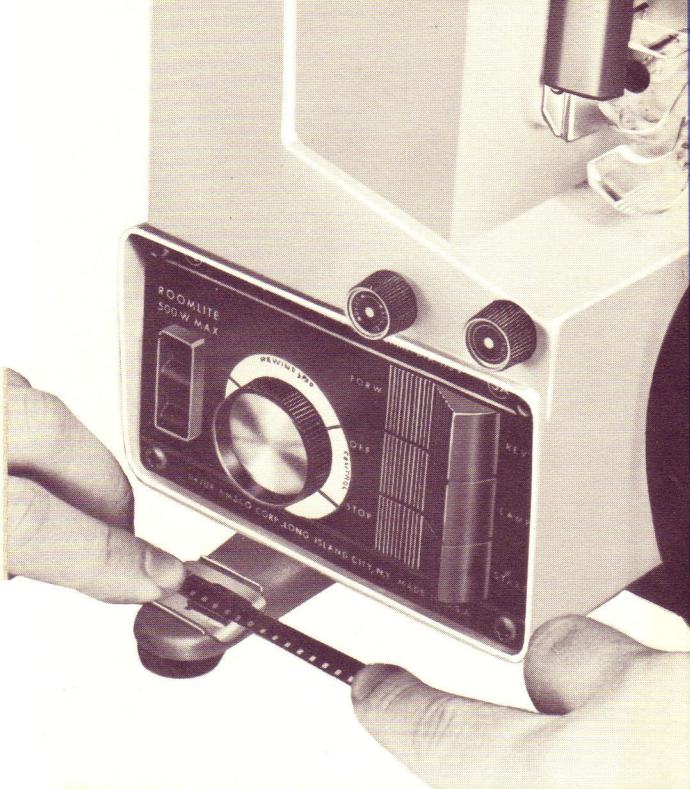

FIG. 5
4. If film is being run for the first time on your automatic loading projector or if the leader end is not square, square film on trimmer. (fig. 5)